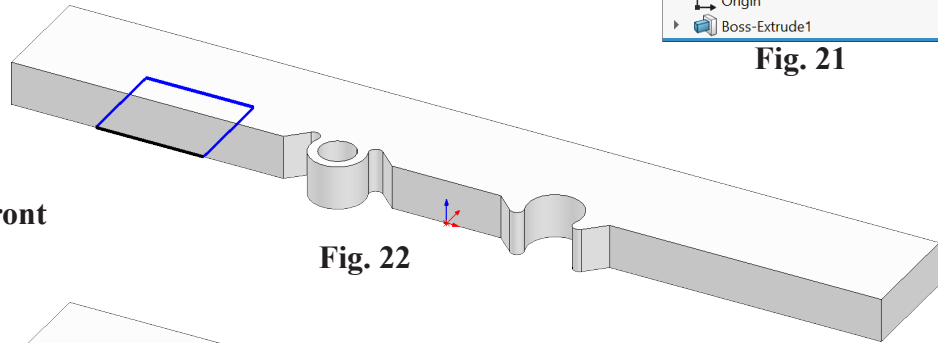

Fig. 22
Step 3. Sketch corner rectangle to **left of Origin**  coincident with front edge, **Fig. 22**.